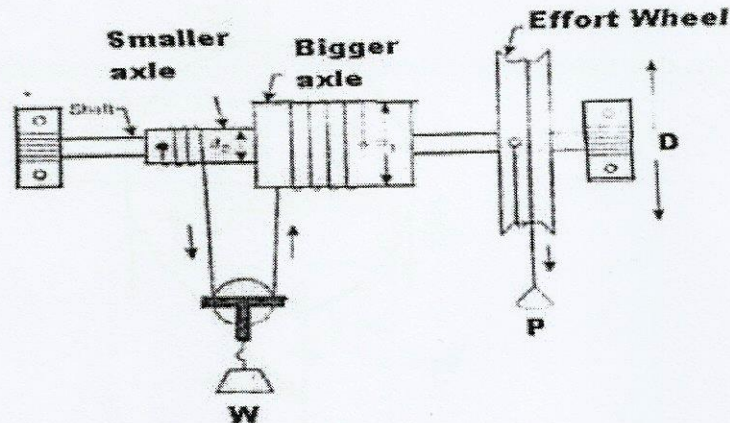

Fig Q5a
5. a) Figure below shows a simple lifting machine. Identify the machine and derive an expression (10) for its velocity ratio. [Fig Q5a]